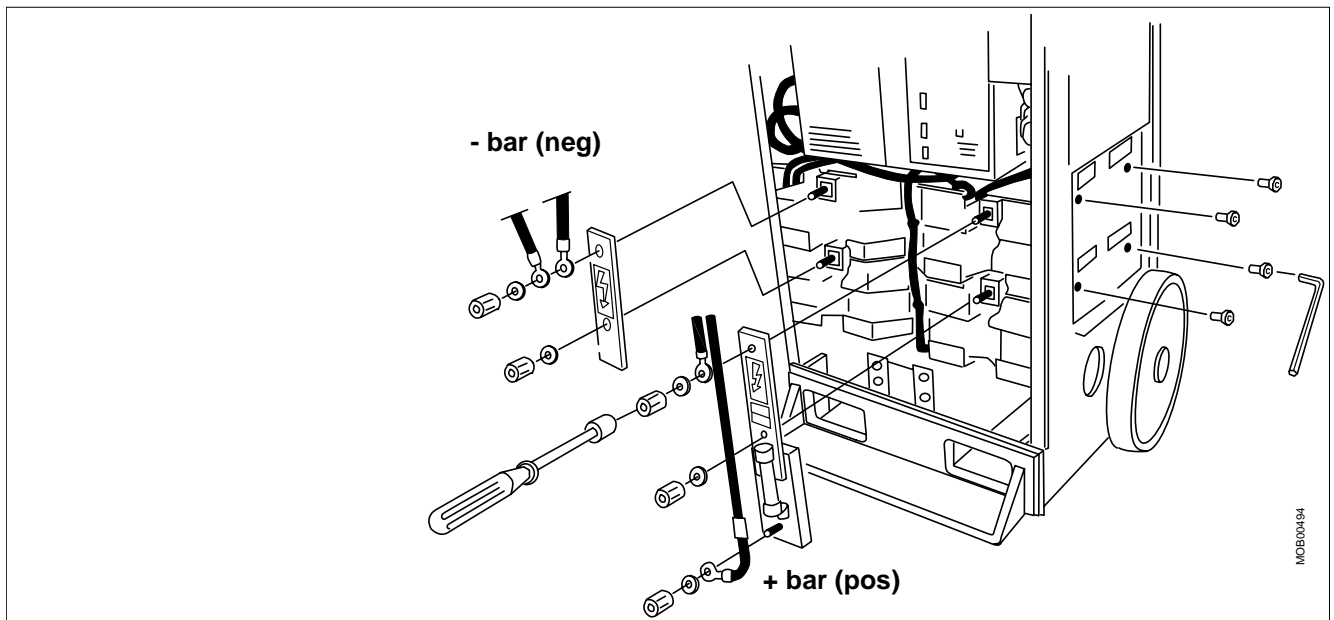
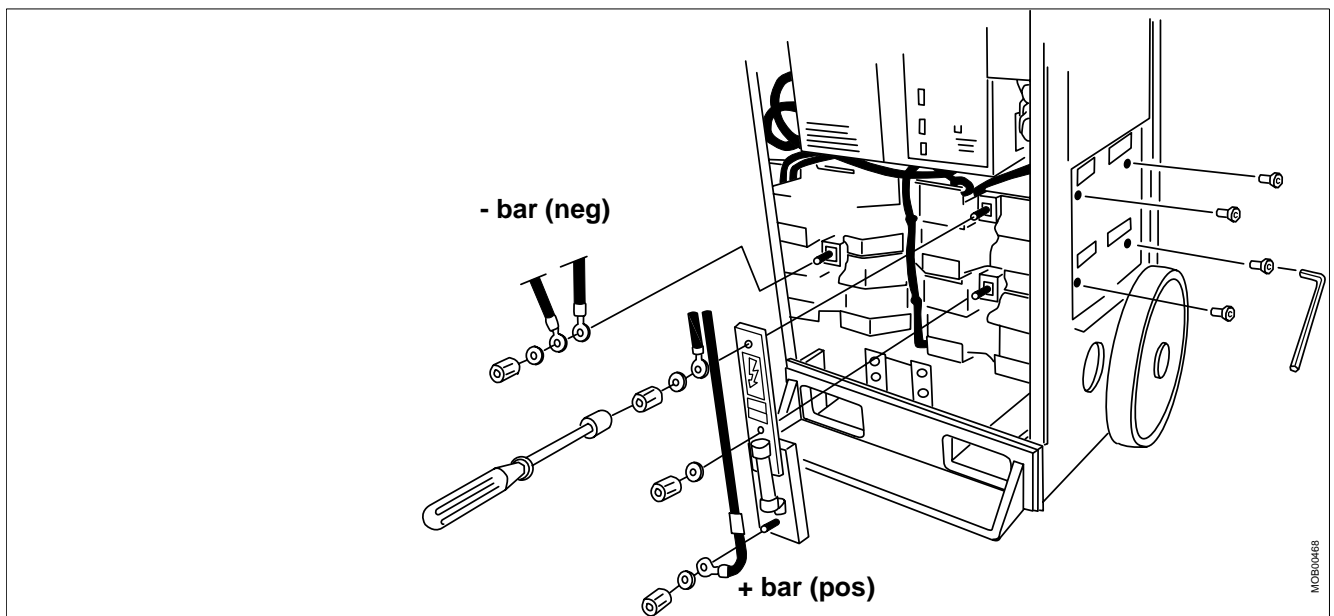

Fig. 3 MOBILETT Plus/ Plus M
Fig. 4 MOBILETT Plus E
- Note the cable connections to the capacitor bank (Fig. 3 for MOBILETT Plus/ Plus M and Fig. 4 for MOBILETT Plus E)